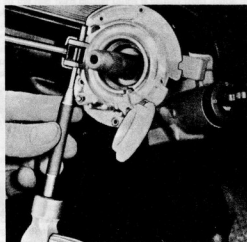

Fig. 10.25. Driving out the turn indicator arm pin (Sec. 24)
- 5 Using a small diameter punch, tap out the pin securing the control arm to the yoke (Fig. 10.25).